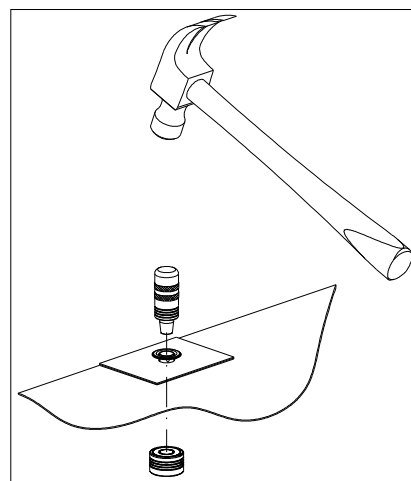

Figure 4
11. Set the grommet using the grommet tools and a hammer. Several blows of the hammer will set the grommet (see Figure 4).